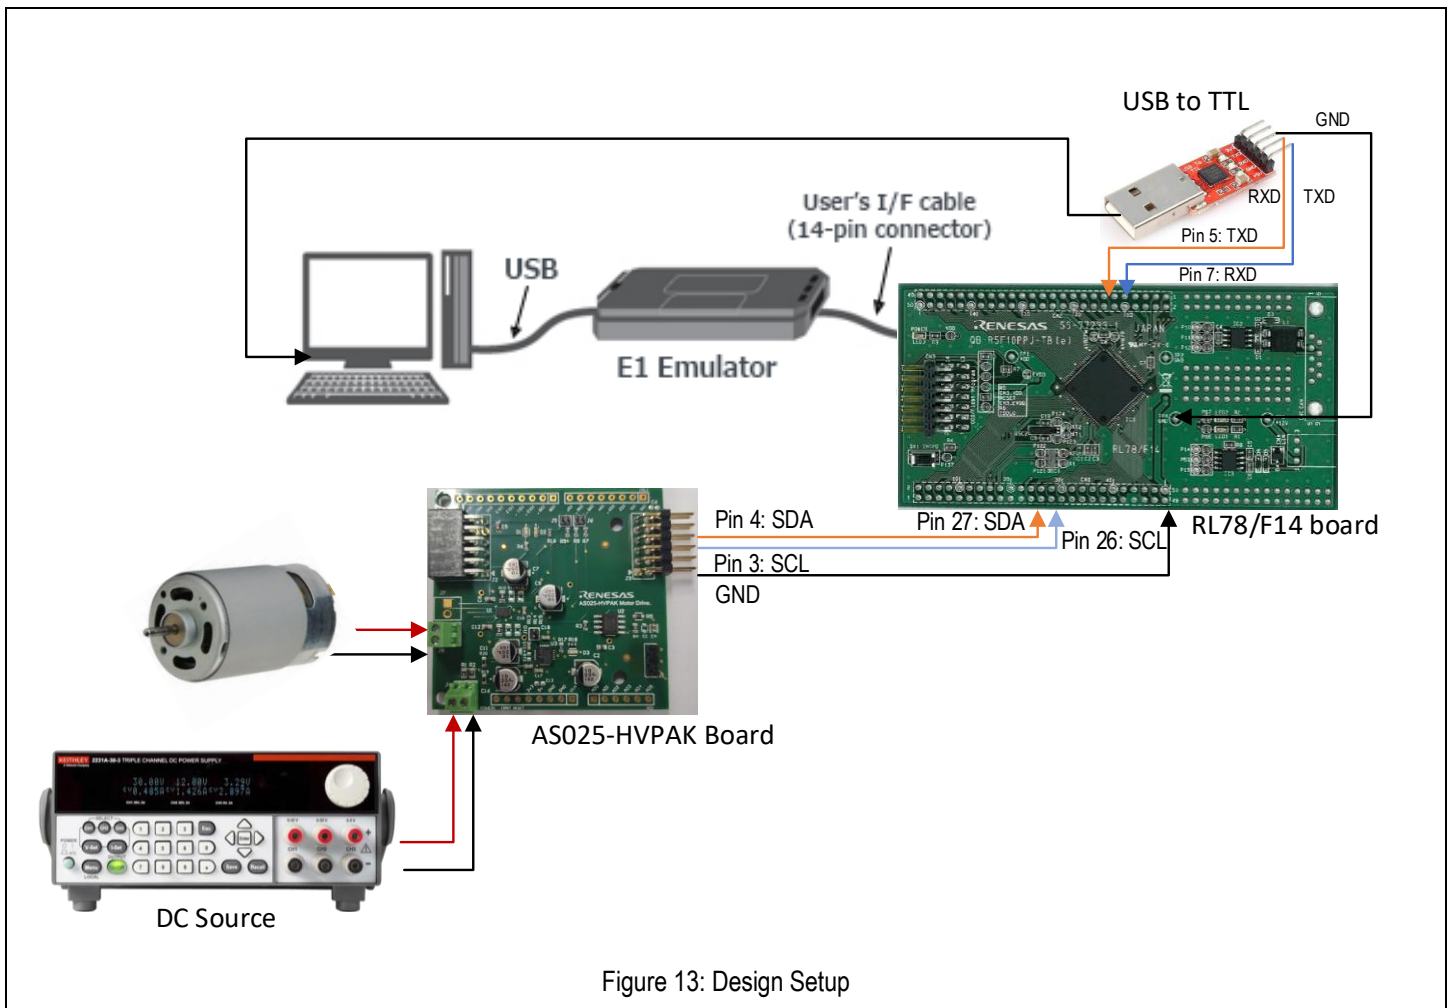

Figure 13: Design Setup
Follow these procedures to set up the kit as shown in Figure 13
7. The serial commands are shown in the figure:13